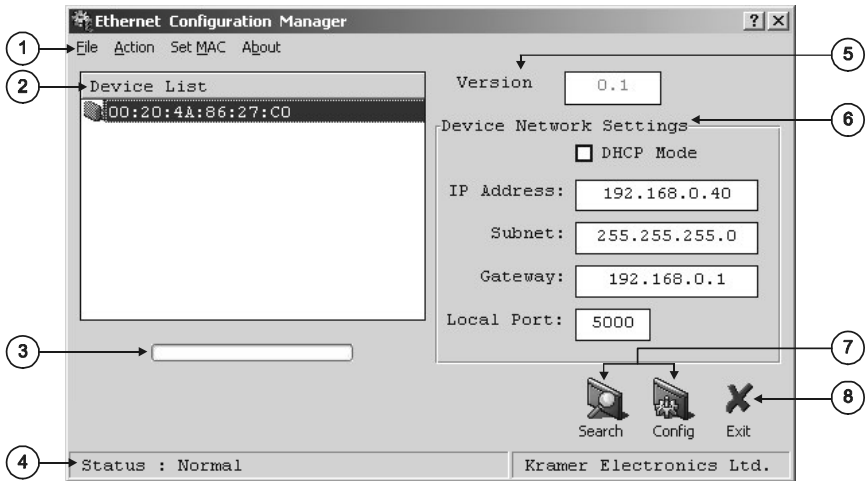

Figure 9: The Ethernet Configuration Manager Window
3. Click the appropriate shortcut in the Start menu's Programs folder. The Configuration Manager window (see Figure 9) opens.